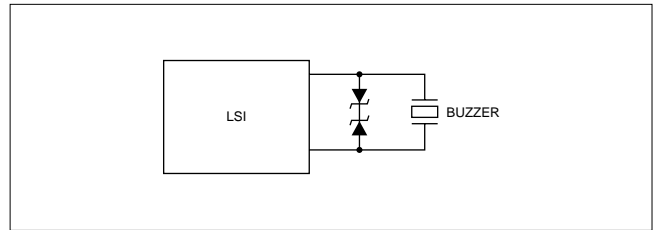

Fig. 7 Protect circuit
- 1) Electric charges accumulated in the piezoelectric diaphragm due to thermal and mechanical shock may cause high voltage which may destroy LSI. Use the method using a Zener diode as shown in Fig. 7 to prevent this.